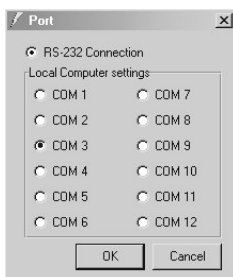

Figure 11: The Port Window – Selecting a Virtual Serial Port
5. In the control application, choose the COM-port connection according to your virtual serial port connections (see Figure 11).